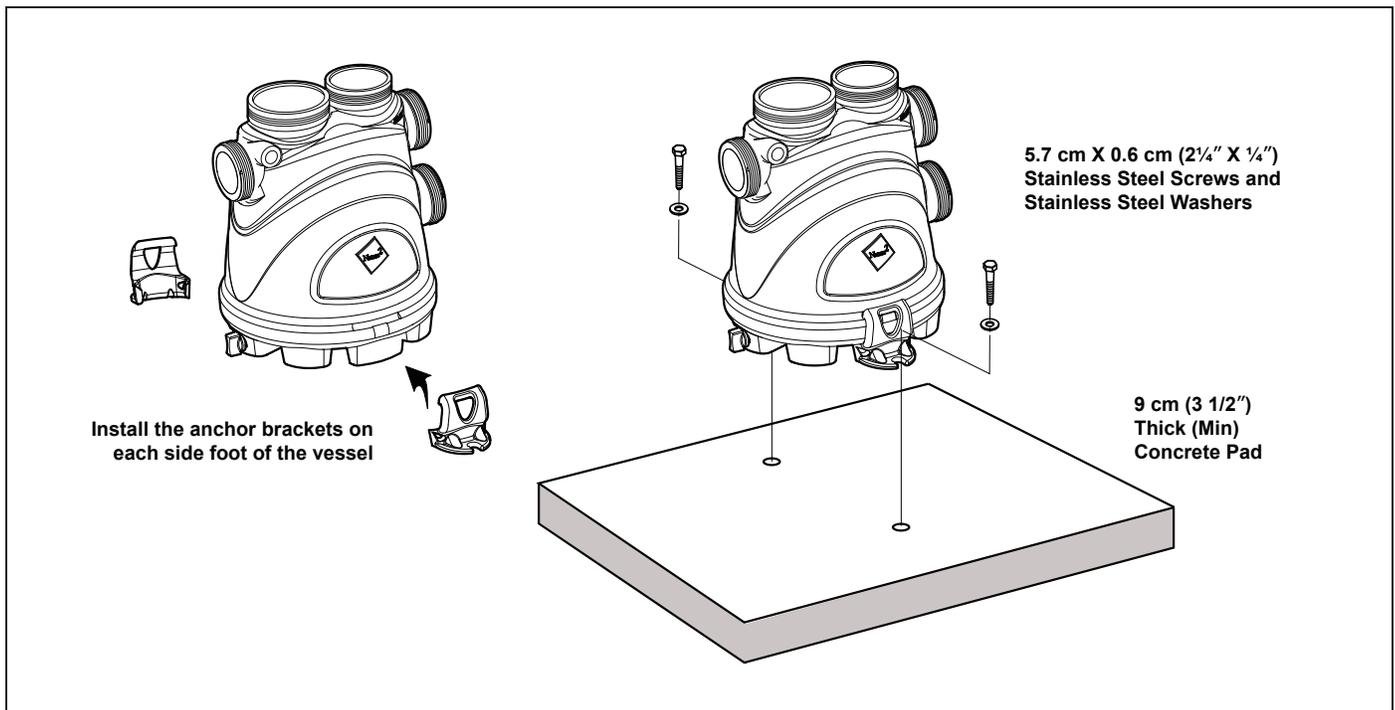

Figure 2. Anchor Bracket Installation
1. Manually snap on the two (2) clip-type anchor brackets onto the side feet of the vessel as shown in Figure 2. Make sure these anchor brackets are attached firmly to the feet of the vessel.
3. Drill a 0.5 cm (5/32") hole in the concrete at each of the two (2) hole locations of the anchor brackets. The correct size concrete drill bit should be obtained when the concrete screws are purchased.
4. Install the screws and washers into each of the two (2) holes to secure the vessel to the equipment pad. Do not over-torque the screws.